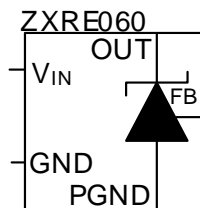

Figure 1 ZXRE060 - 0.6V reference
With a normal reference, the power to drive its internal functions is normally derived from the voltage dropped across its cathode (K) and anode (A) terminals. Because the minimum 0.6V terminal voltage at which this device works is too low for this, provision is made for the device to be separately powered via two pins. This makes the 0.6V reference a 5-terminal device as illustrated in Figure 1 below.